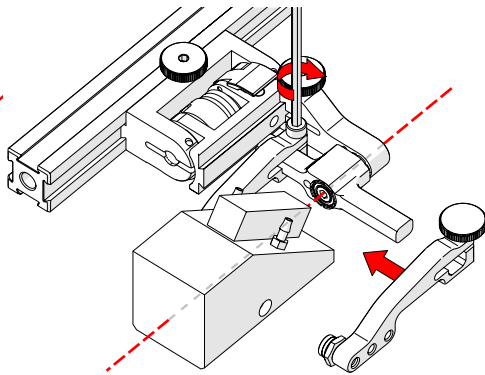

Fig. 81 - Place wedge
7. Position the wedge on the inner probe holder arm (Fig. 81).
8. Tighten the arm clamp screw (Fig. 81).